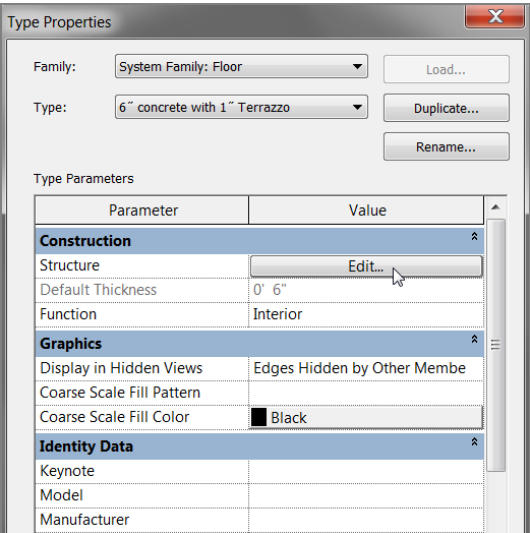

FIGURE 6.20: Clicking the Edit button in the Structure row
8. In the Structure row, click the Edit button, as shown in Figure 6.20.